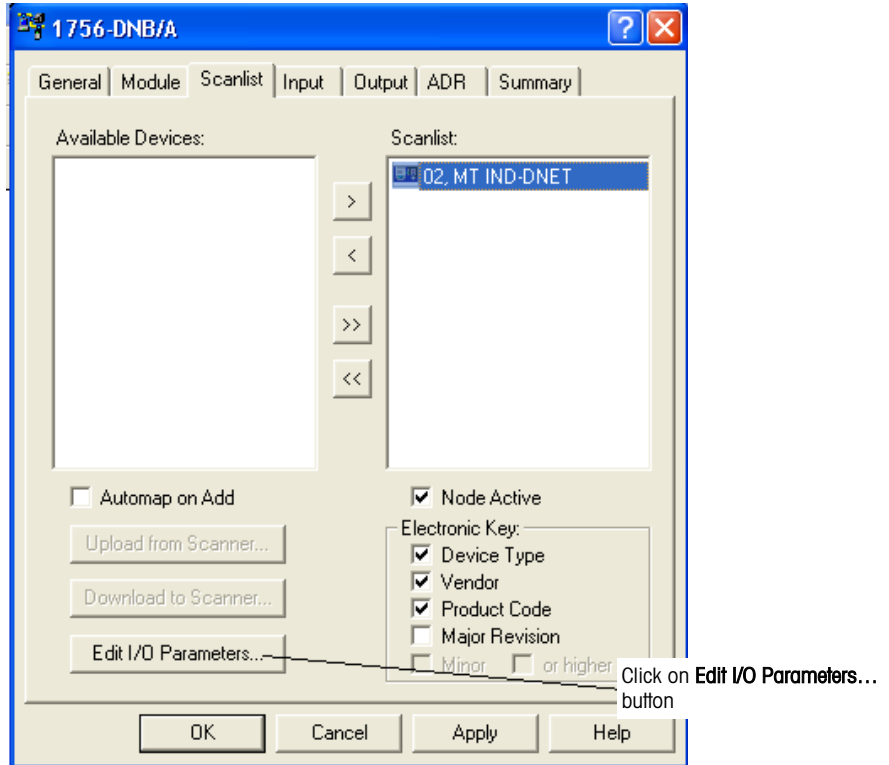

Figure 3-19: IND Terminal Added to Scanlist
8. Highlight the IND Terminal (MT IND-DNET) and left-click to add it to the Scanlist. Once the IND Terminal is added, it will appear in the right pane (Figure 3-19). Click OK.